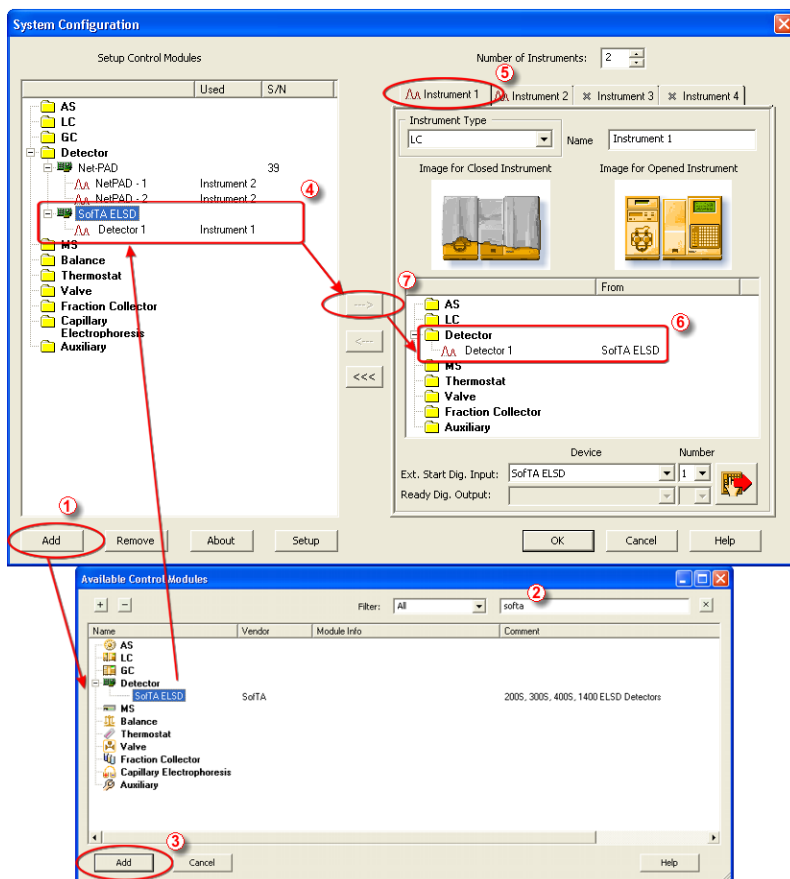

Fig 4: System Configuration
- Press the **Add** button ① (see **Fig 4** on pg 5.) to invoke the **Available Control Modules** dialog.
- You can specify the searching filter ② to simplify the finding of the driver.
- Select the **SoFTA ELSD** and press the **Add** ③ button.